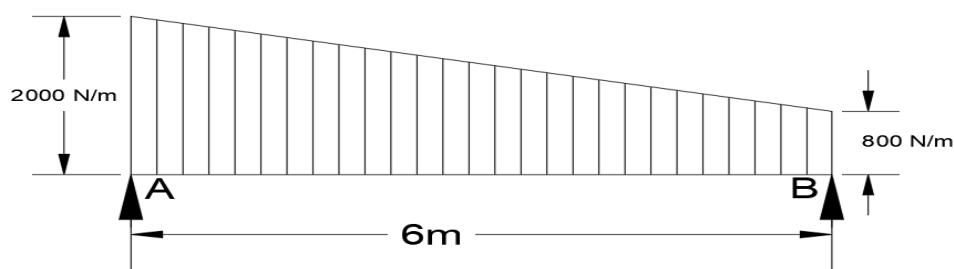

Fig. No. 2
- C) The intensity of loading on a simply supported beam of 6 m span increases gradually from 800 N/m run at one end to 2000 N/m run at another end as shown in fig. No. 2. Find the position and amount of maximum bending moment. Also draw the shear force and bending moment diagram. A/CO-5 6